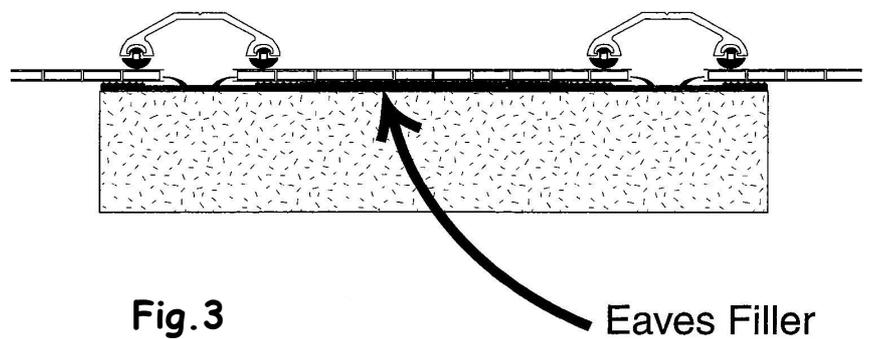

**Fig. 2**
**Step 1:** Measure and set out where the rafters and, if they are going to be used purlins, are going to lie. Rafters should be 50mm wide when installing the 500/501 system. 10mm sheet can be accommodated at centres no more than 700mm apart (Fig.2).
**Step 2:** Nail the rafter gasket (ref. 501) to the rafters through the central channel with galvanised nails spaced 300mm apart.